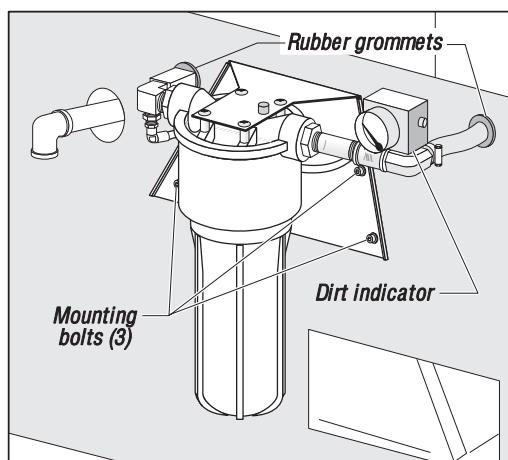

Figure 3. 100 Micron TSC filter.
- ✓ Check dirt indicator on 100 micron filter (Figure 3) with TSC system running and no tool in the spindle. Change element when the indicator reaches the red zone.